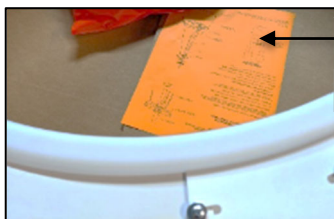

FIG.3 INSTALLATION INSTRUCTIONS
2. INSTALLATION INSTRUCTIONS (as shown in FIG. 3)- Please completely read the install instructions before starting installation.